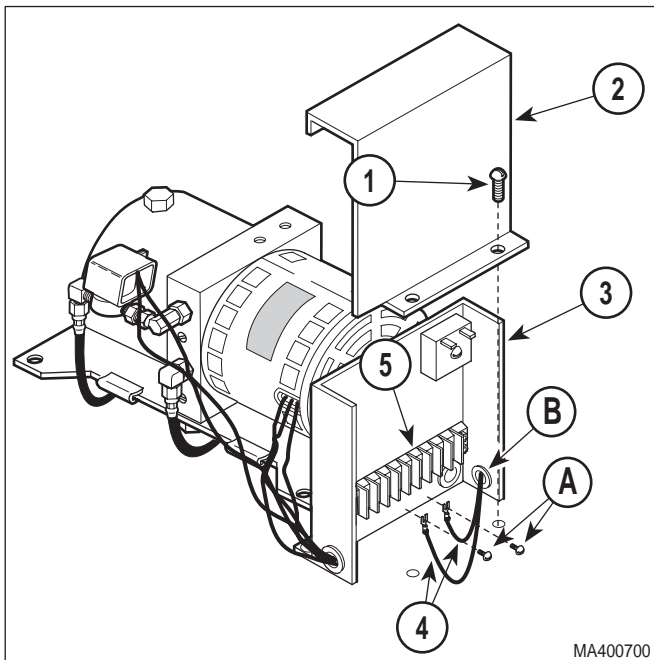

Figure 4-14. Tilt Cylinder Wire Disconnection / Connection
- (2) Connect power manifold (9) to base of tilt cylinder (8), making sure safety cable (B) is properly installed.
- (3) Connect return manifold (7) to rod end of tilt cylinder (8).
- (4) Secure wire harnesses and hose assemblies to tilt cylinder (8) with a cable tie.
- (5) Route tilt cylinder wires (4, Figure 4-14) thru table.
- (6) Feed tilt cylinder wires (4) thru wire hole (B) in control panel (3).
- (7) Connect two tilt cylinder wires (4) to terminal block (5) and secure by tightening two terminal screws (A).
- (8) Install control cover (2) on control panel (3) and secure with two screws (1).
- (9) Install any cable ties which were removed.
- (10) Plug table power cord into outlet.
- (11) Lower TILT DOWN function all the way down.
- (12) If seat section *is not* level with floor when the TILT DOWN function *is* completely lowered, perform steps 13 thru 15. If seat section is level when the TILT DOWN function is completely lowered, go to step 16.